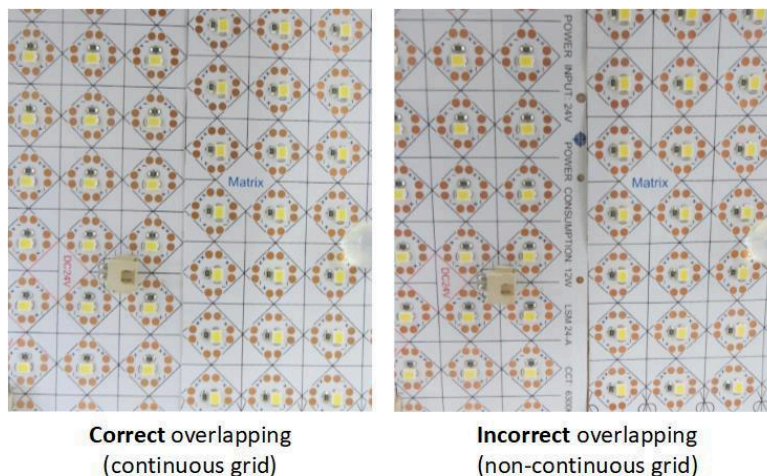

Figure 5
- Place Matrix sheets such that they overlap to form one continuous sheet. **See Figure 5.** Gaps or discontinuities will produce a shadow line. This is most effectively completed by utilizing cut lines to properly align sheets.